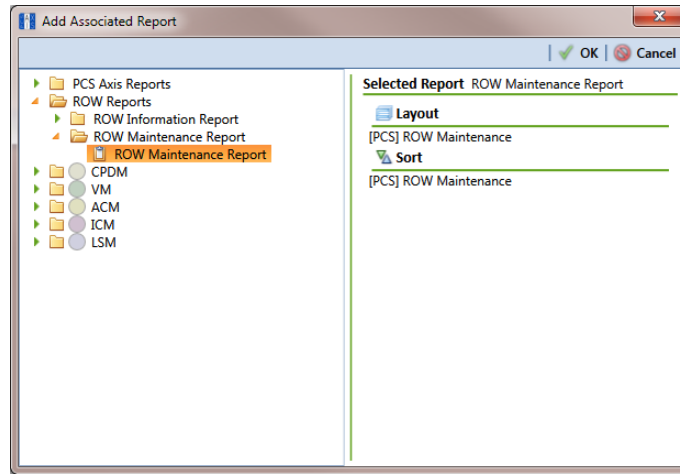

Figure 12-9. Add Associated Report
- a** Click  **Add Associated Report** to open the *Add Associated Report* window (Figure 12-9, page 540).
For example, double-clicking  **ROW Reports** >  **ROW Maintenance Report** displays a list of reports available for selection (Figure 12-9, page 540).
- c Select a report in the list to move it to the *Selected Report* panel and then click  **OK** (Figure 12-9).